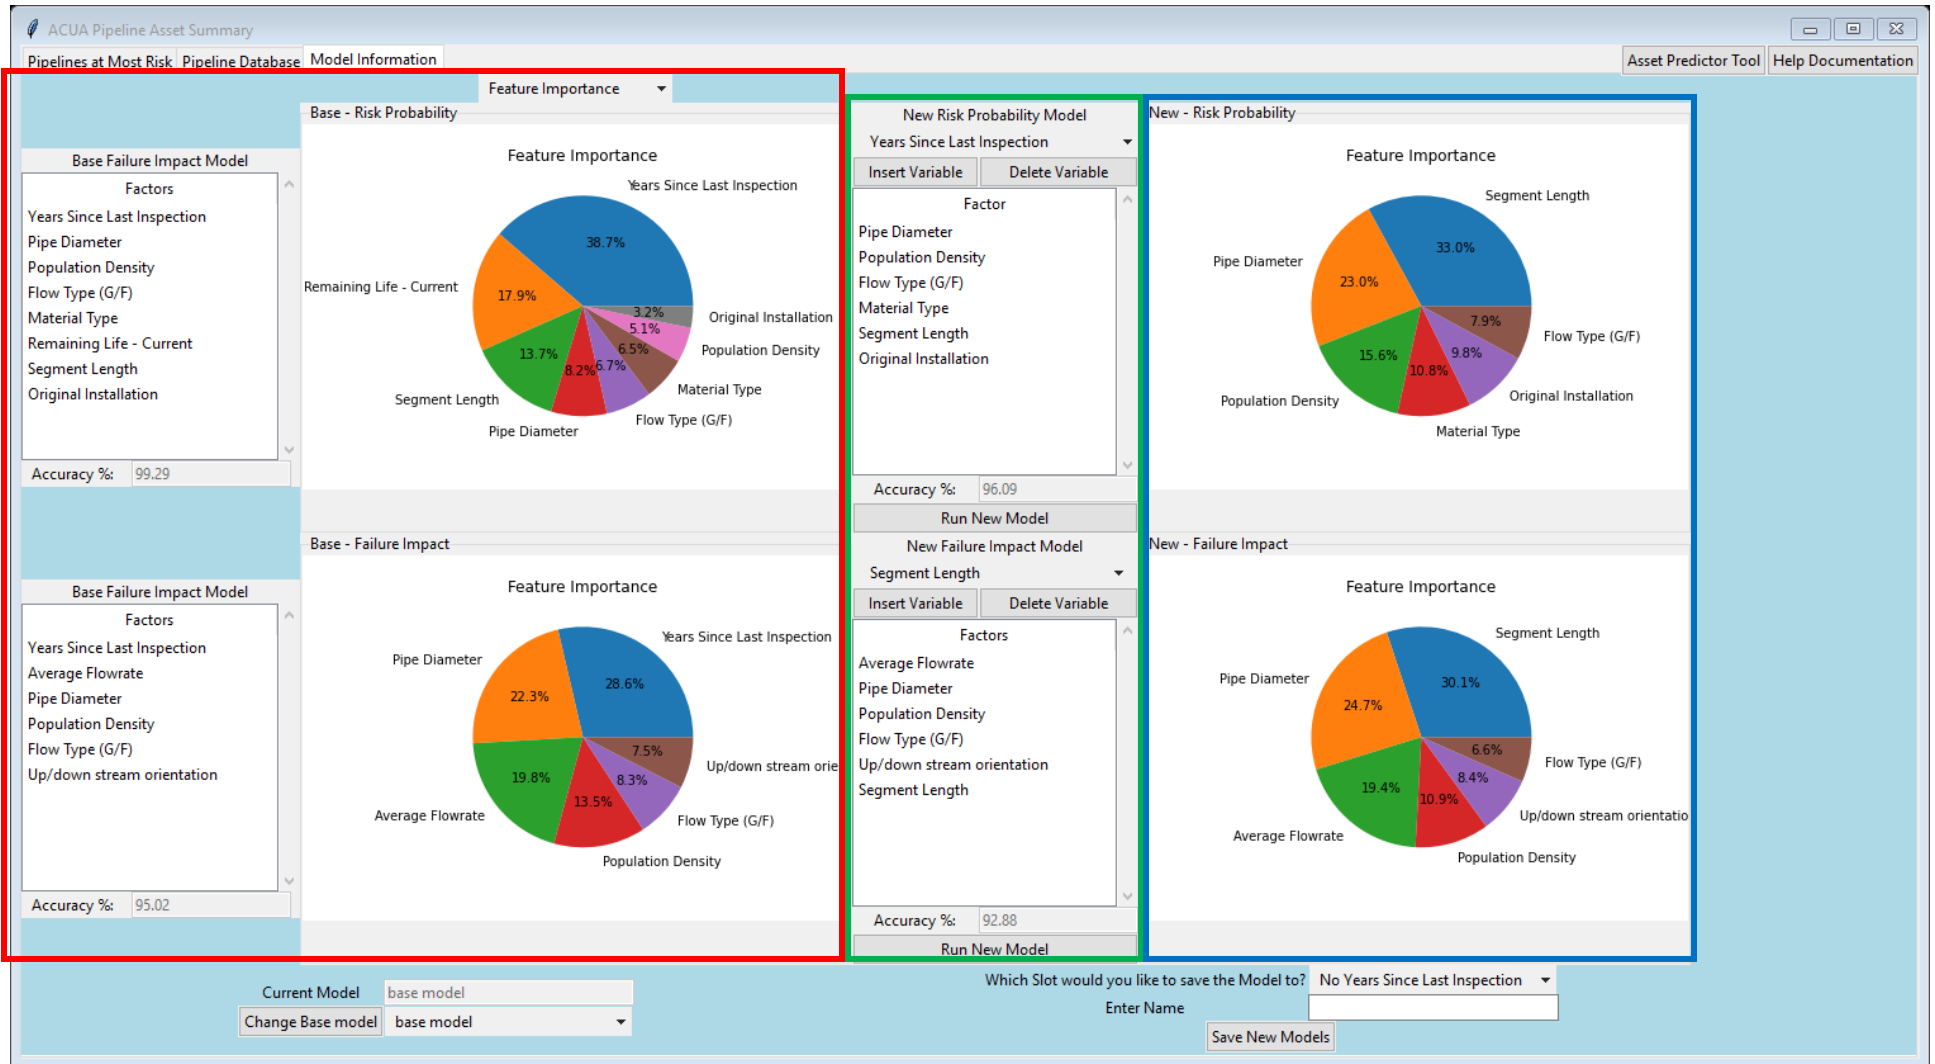

Figure 13: Changing the Machine Learning model
- a. The base model section on the left (shown in a red outline in Figure 13)
- b. The new model section on the right (shown in green and blue outlines in Figure 13)
4. By using the buttons in the green outline in Figure 13 the model can be changed
8. The corresponding figure in the blue outline in Figure 13 will change to reflect the new model as well as the accuracy textbox below.